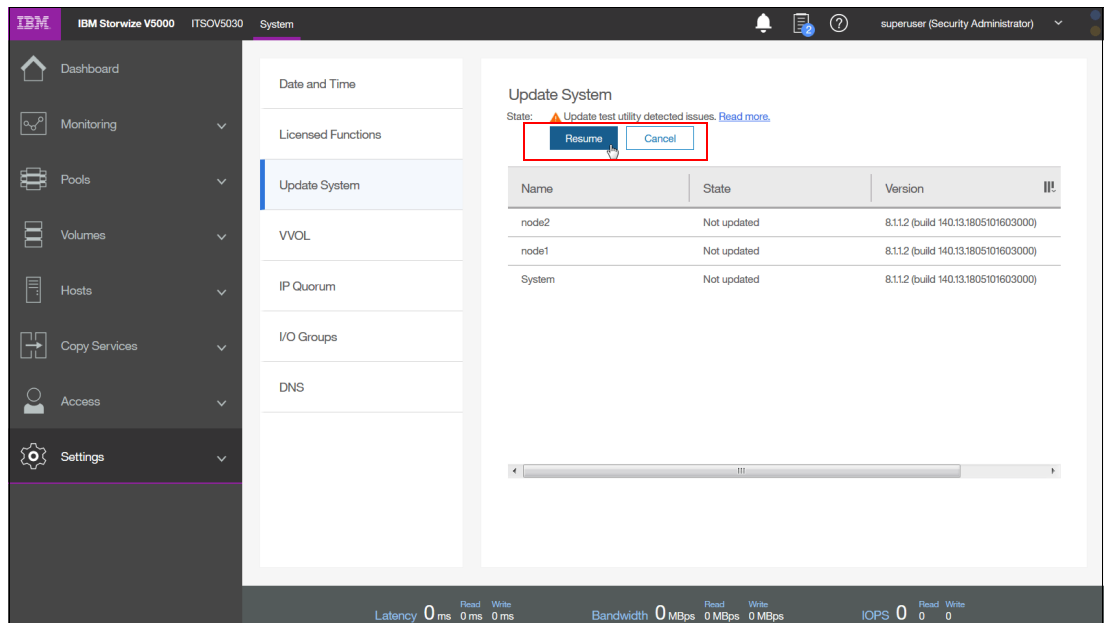

Figure 12-40 State after you run the test utility
8. Close the window and select **Resume** or **Cancel**, as shown in Figure 12-40. Clicking **Resume** continues the software update. Clicking **Cancel** cancels the software update so that the user can correct any issues.